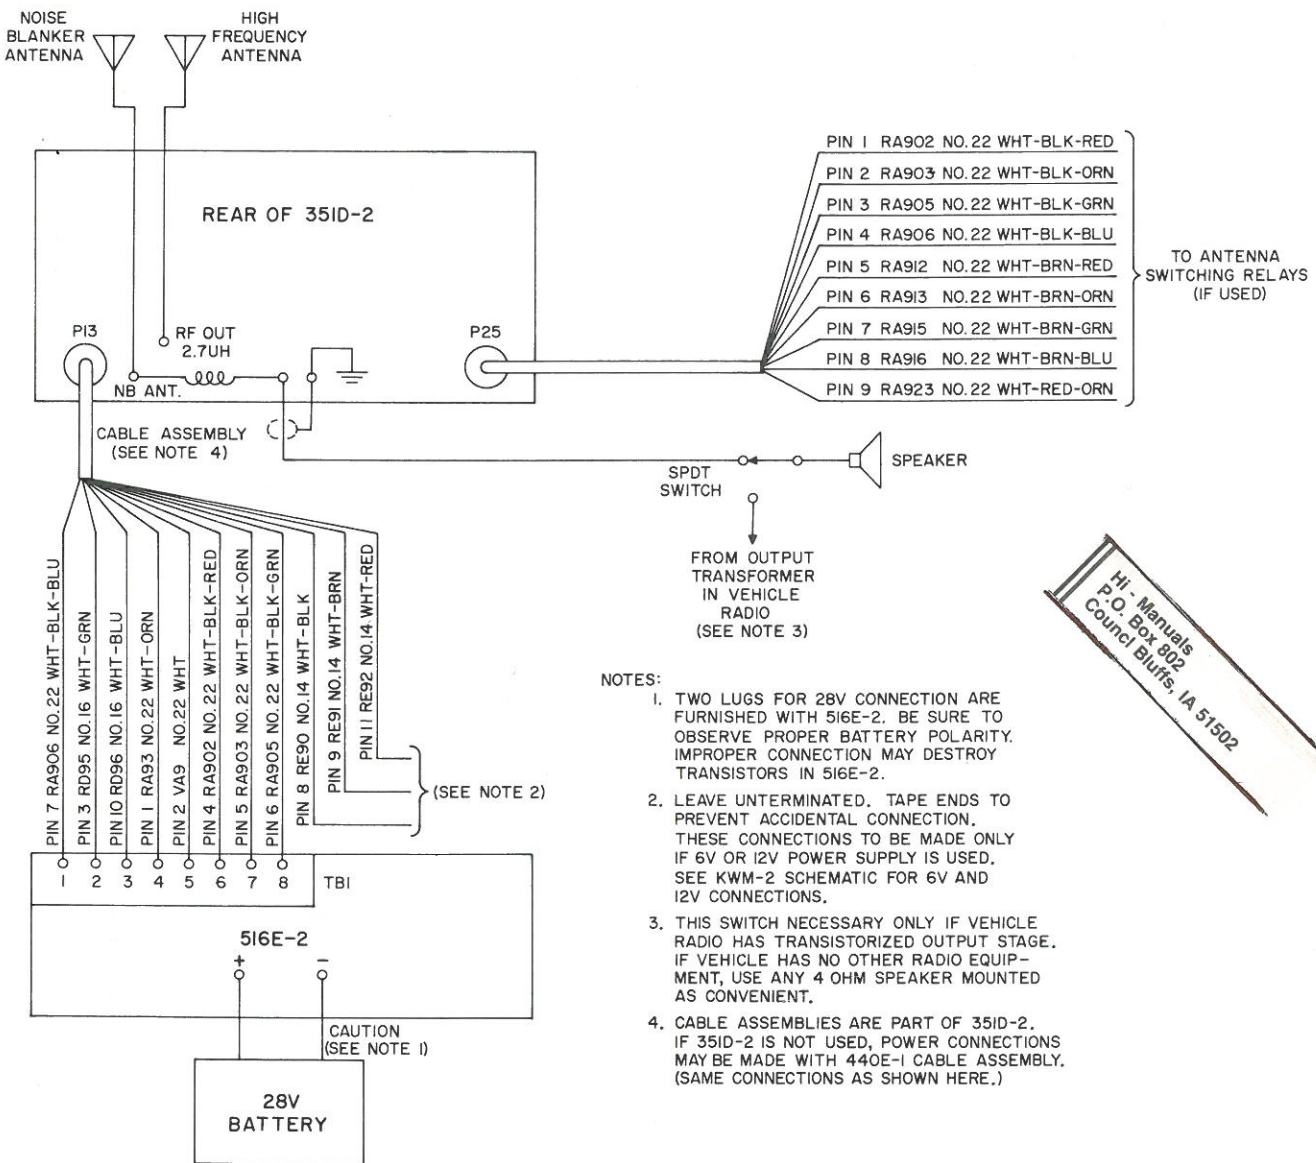

Figure 1. Interconnections to KWM-2/2A
b. Determine the necessary length of power cable to connect the 516E-2 to the equipment which it is to operate. If the power supply is to supply voltages for the KWM-2/2A and the 351D-2 Mobile Mount is used, cut the required length of cable from that furnished with the mount. Consult figure 1 for installation information. If the 351D-2 is not used, it will be necessary to use a power connecting cable such as Collins type 440E-1. Wire color code and pin-terminal interconnecting information is the same for the 440E-1 as for the power cable furnished as part of the 351D-2. Other connections to the KWM-2/2A may be made as shown in the KWM-2/2A Instruction Book.
c. Remove the cover from the 516E-2 Power Supply terminal board, and make connections to the terminal board. Refer to figure 1.